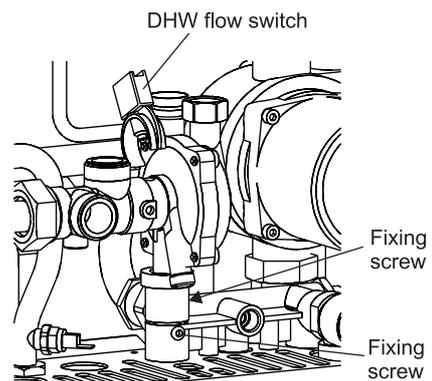

Fig. 28 - HE CB25/33 only
8.15 DHW FLOW SWITCH (HE CB25/33 only) - Fig. 28
8.28 DIVERTER VALVE ASSEMBLY (HE CB25/33 only) - Figs. 28 and 32
4. Release the screws shown in Fig. 28 and raise the valve slightly to disengage it from the manifold, then lift it out of the boiler.